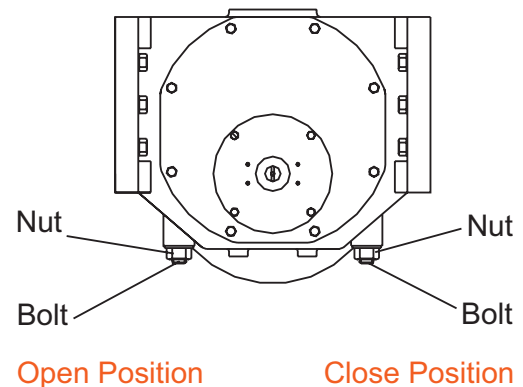

Figure 8 (A-SK & JC Series)
*Note: A-SK & JC series refer Figure 8. JA series refer Appendix 2 (adjusting nut is one end of both cylinders)*